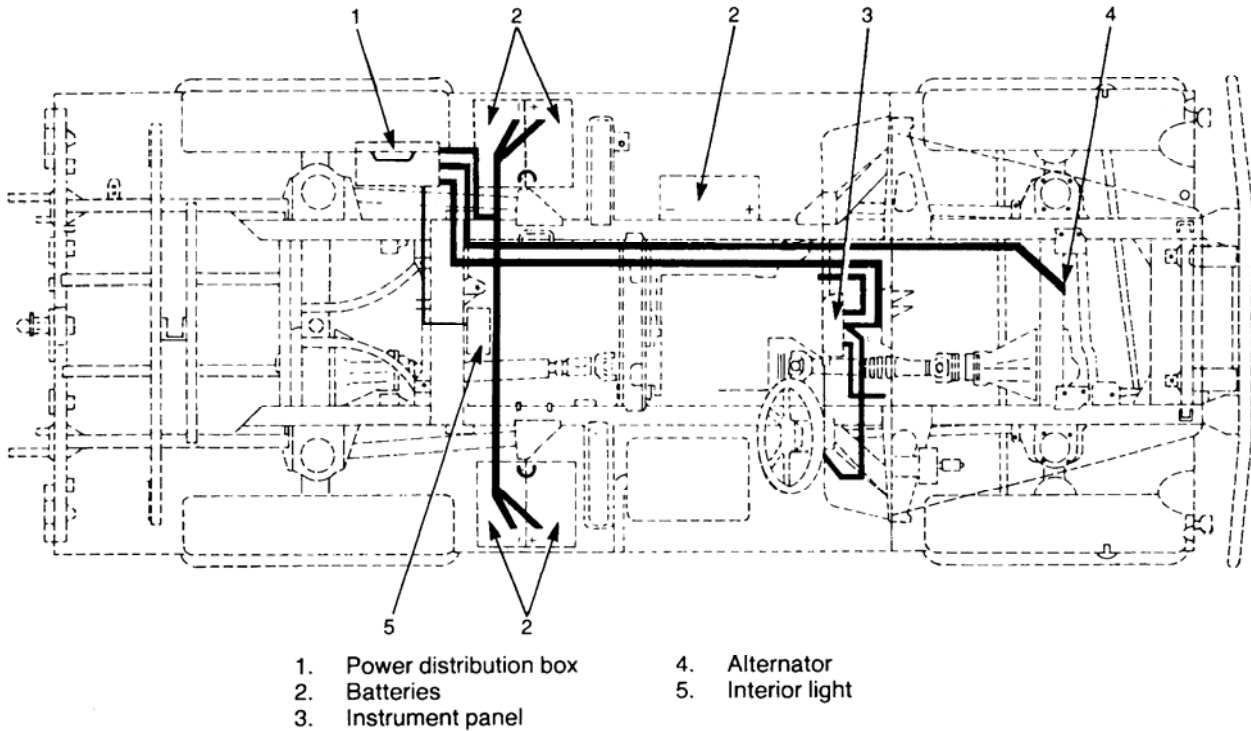

Figure 4 Rear Wiring Harness (FFR)
- e. The layout of the rear wiring harness for vehicle fitted for radio is shown in Figure 4.